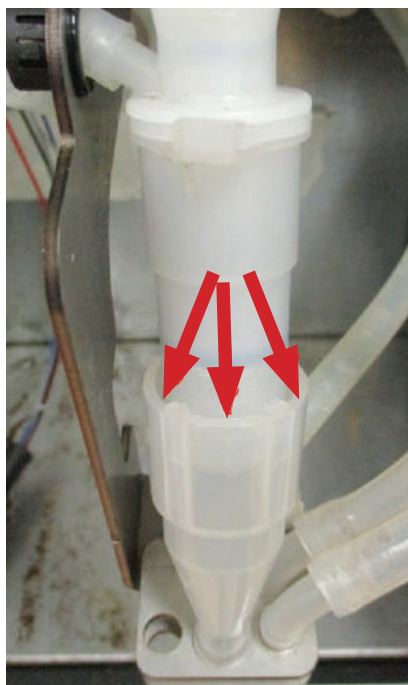

Fig.4.9
- At the cappuccinatore and the adapter joint there's a gap (see fig. 4.9). The foam shouldn't run out of the adapter during the operation.